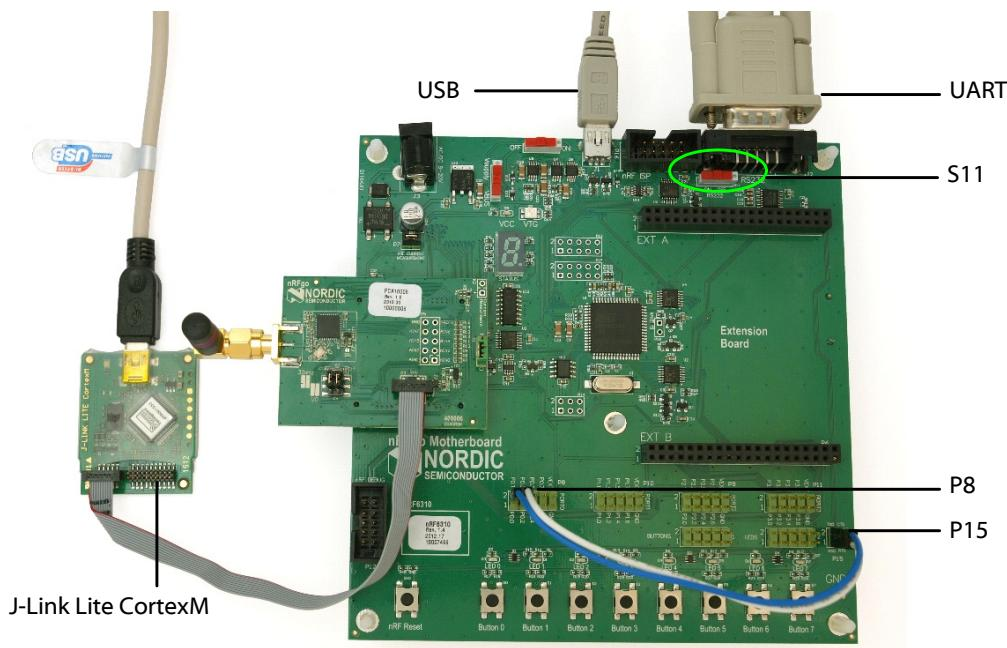

Figure 35 UART setup for DTM
2. Connect a double cable, or two single cables, between **P15** and **P8** on the Motherboard as shown in Figure 35. The UART data pins RXD and TXD will be present on the I/O port pins P0.1 and P0.3 as seen in Table 7 on page 44. Make sure the RXD/TXD labels match for each wire. This matches the default setting in the SDK project ble_app_dtm.